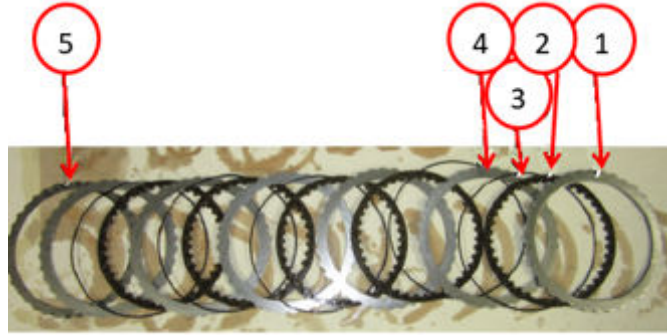

Fig. 32
51. The clutch B, dependent on transmission Julian Date, may contain wave springs that sit around each fiber. There will be five friction plates (discs), five wave springs, five steel plates, one cover plate, one snap ring, and one wave plate (last plate far left in figure) Fig. 32.